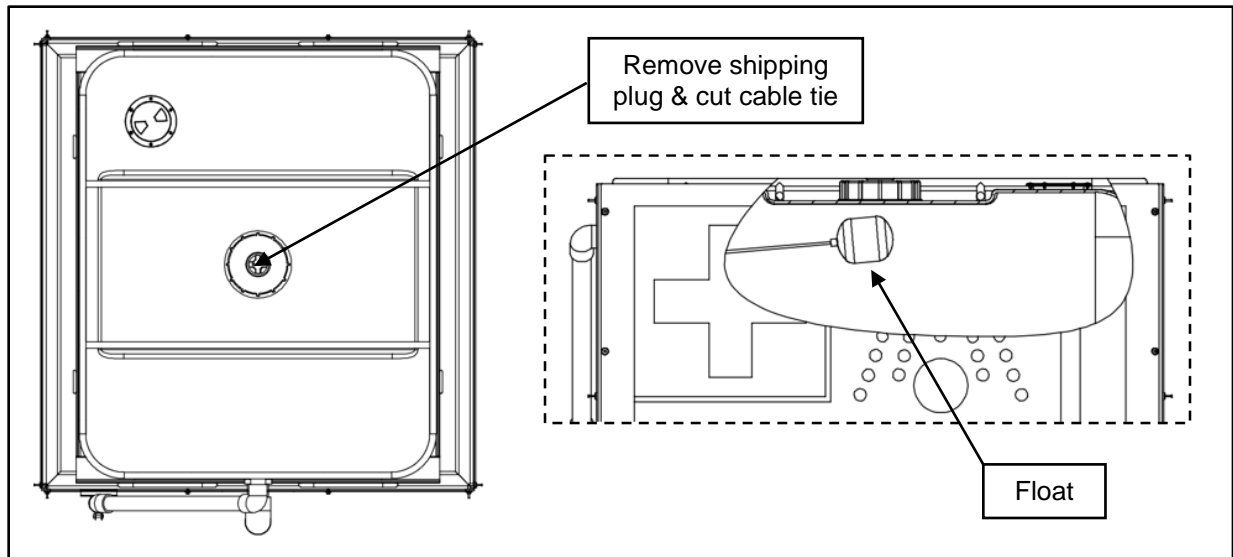

Figure 3. Remove Shipping Plug and Detach Shipping Protection for Float
8. At the top of the tank, remove the shipping plug from top cap and cut cable tie holding the float for shipping protection. Ensure the cable tie does not drop into the tank. See Figure 3.